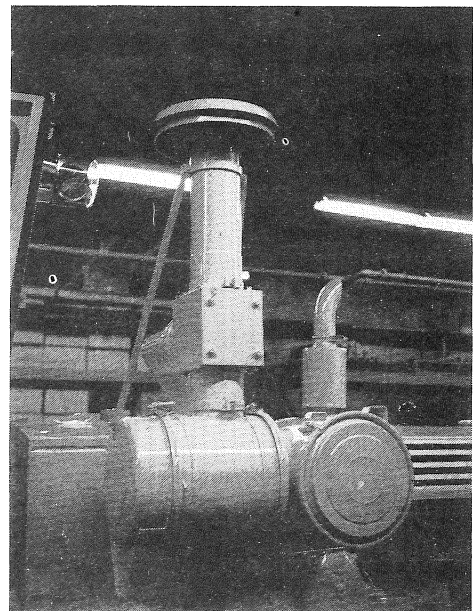

Figure 6
7. Muffler, exhaust extension, air cleaner and extension are removed and placed in the lower cab (Fig. 6). Exhaust and air intakes blanked off.